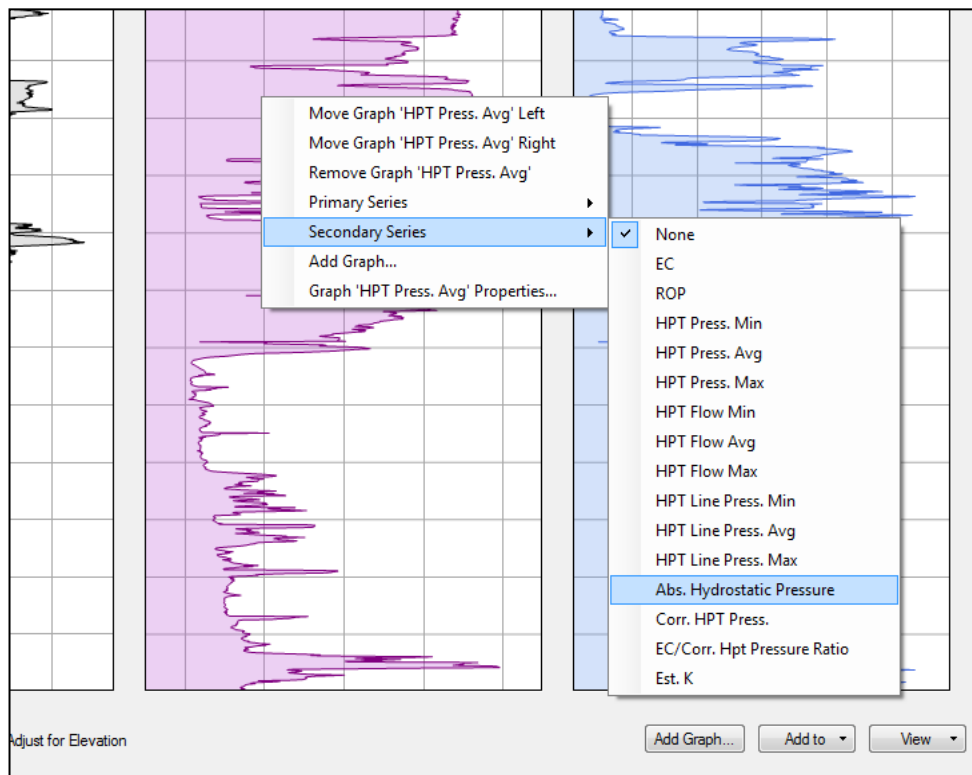

Figure 25: Accessing popup menus from the HPT pressure graph to plot the absolute hydrostatic pressure line over the HPT pressure graph.
2. When the popup menu opens select *Secondary Series* from the list (Figure 25).